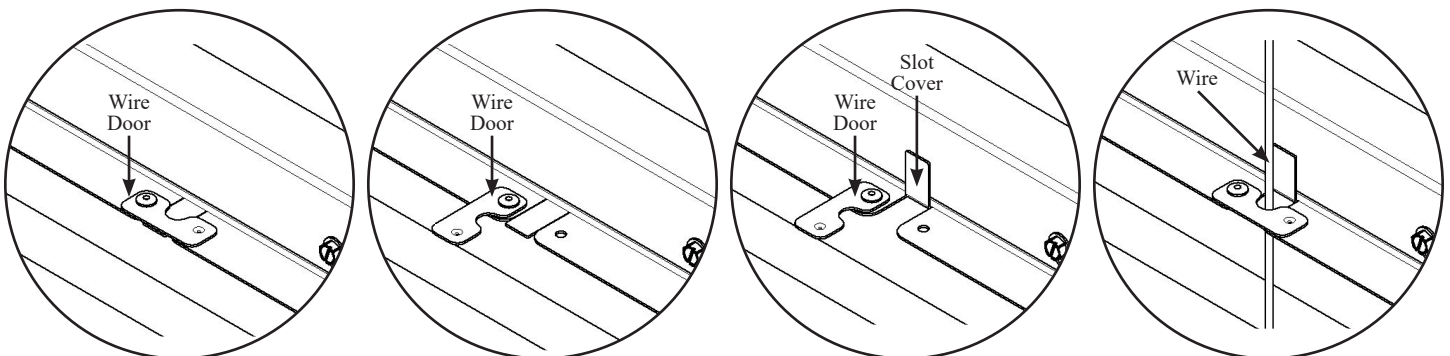

Fig. 2 - Fan with Light
2. When using a fan equipped with a grille light, rotate the wire door and bend down the slot cover with a screwdriver. Route the wire from the grille through the slot, and rotate the wire door back to its original position to secure the wire. (Refer Fig. 2)